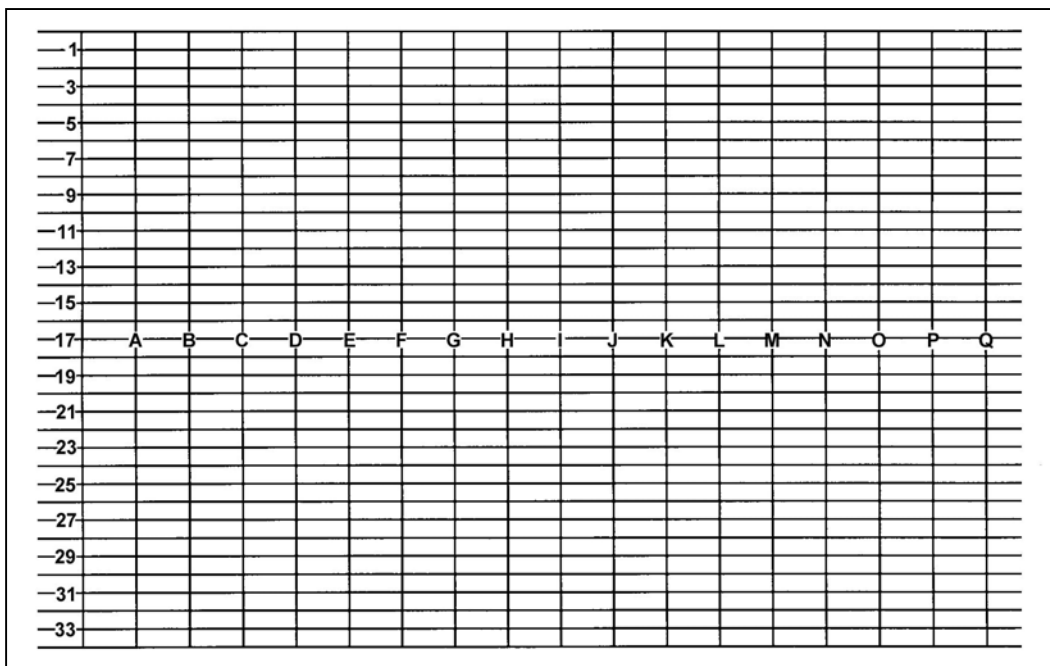

Figure F-3. Manipulator for T&E drills.
(1) Label the horizontal lines starting from the top with 1, 3 and so on skipping every other line. Label the vertical lines along the middle horizontal line starting at the left; for example, A, B, C and so on (Figure F-3).
(2) When using the night vision sight, cut out a 4-cm-square circle from every four squares across and down. The squares or circles can be cut in any order the unit leader desires.
(3) Set up the machine 25 meters away from the target. Center the machine gun on the target.